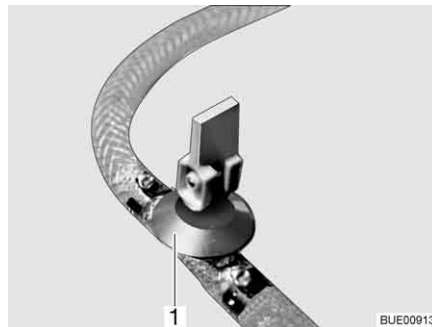

Fig. 209 Drain cock
- Close the drain cock(s). Position the rocking lever (Fig. 209,1) horizontally.
- Open drain cock(s) (Fig. 209). To do so, set the rocking lever (Fig. 209,1) in a vertical position. The boiler is drained to the outside.